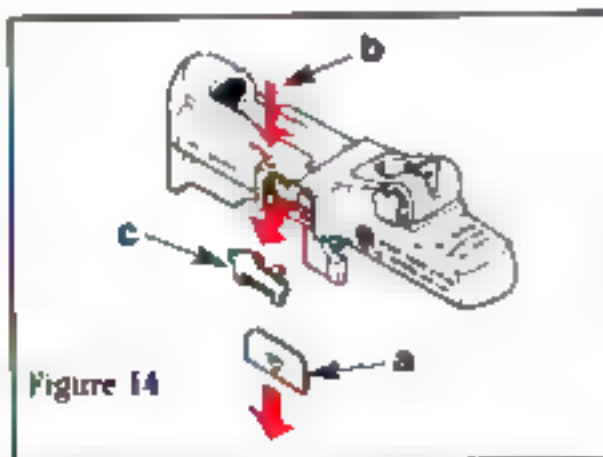

Figure 14
- 9 The bolt lock cover plate can be removed by tapping downward (with a soft metal punch) at point "a" (See Fig. 14). With cover plate removed, depress bolt lock plunger "b", which will allow the bolt stop "c" to be lifted out.